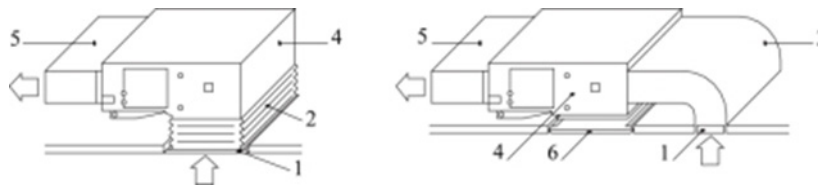

Figure 12: Installation Method
5. The installation method should consider the conditions of the building, maintenance access, etc., as shown in Figure 12.